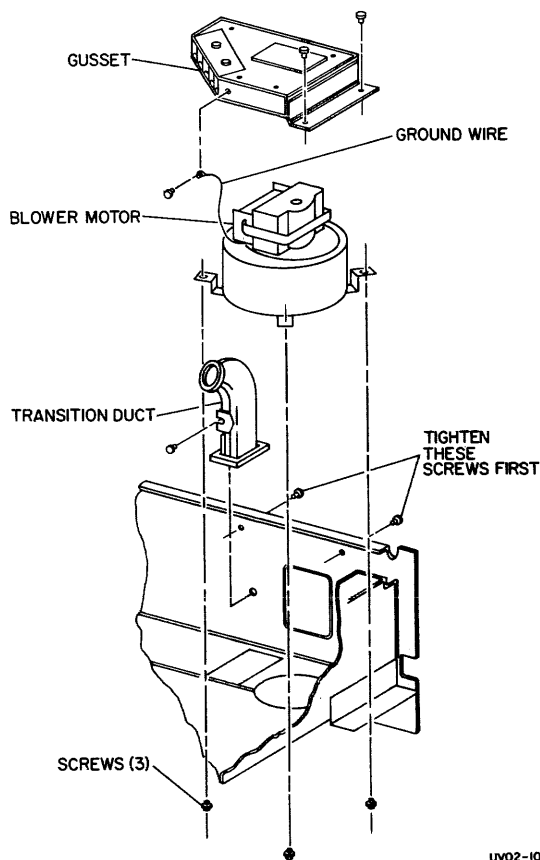

Figure 3-20. Blower Motor Removal
6. REMOVE TRANSITION DUCT (Figure 3-20).